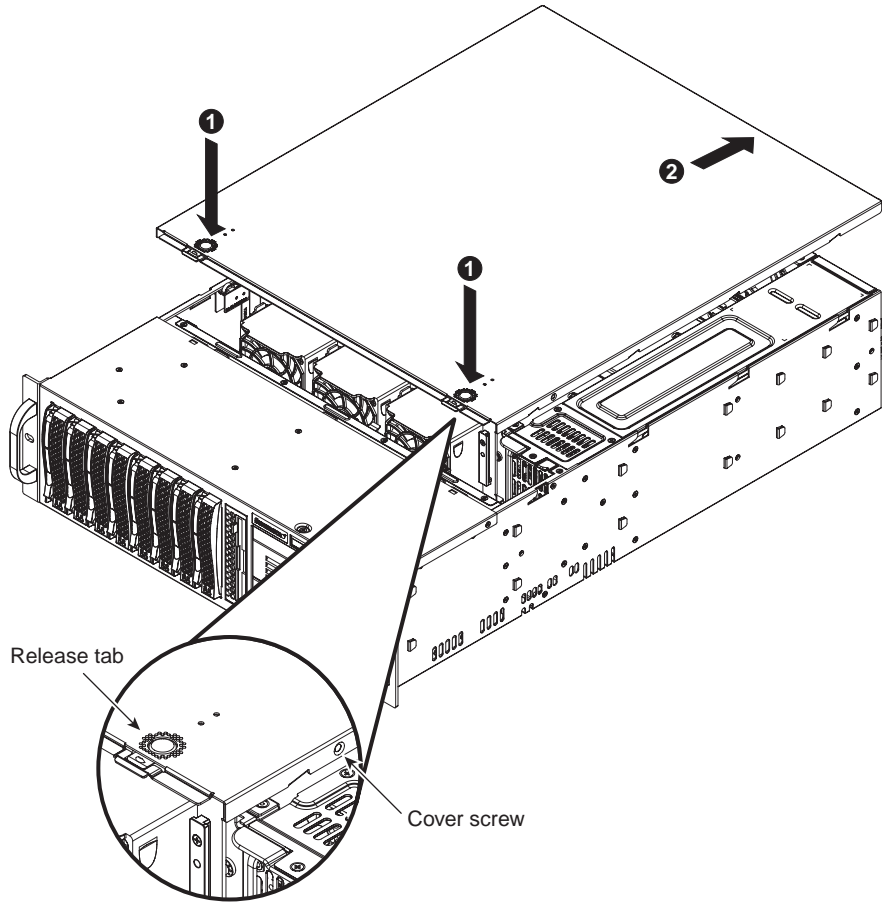

Figure 2-6 Accessing the Inside of the System
2. Depress the two buttons on the top of the chassis to release the top cover as shown in Figure 2-6.